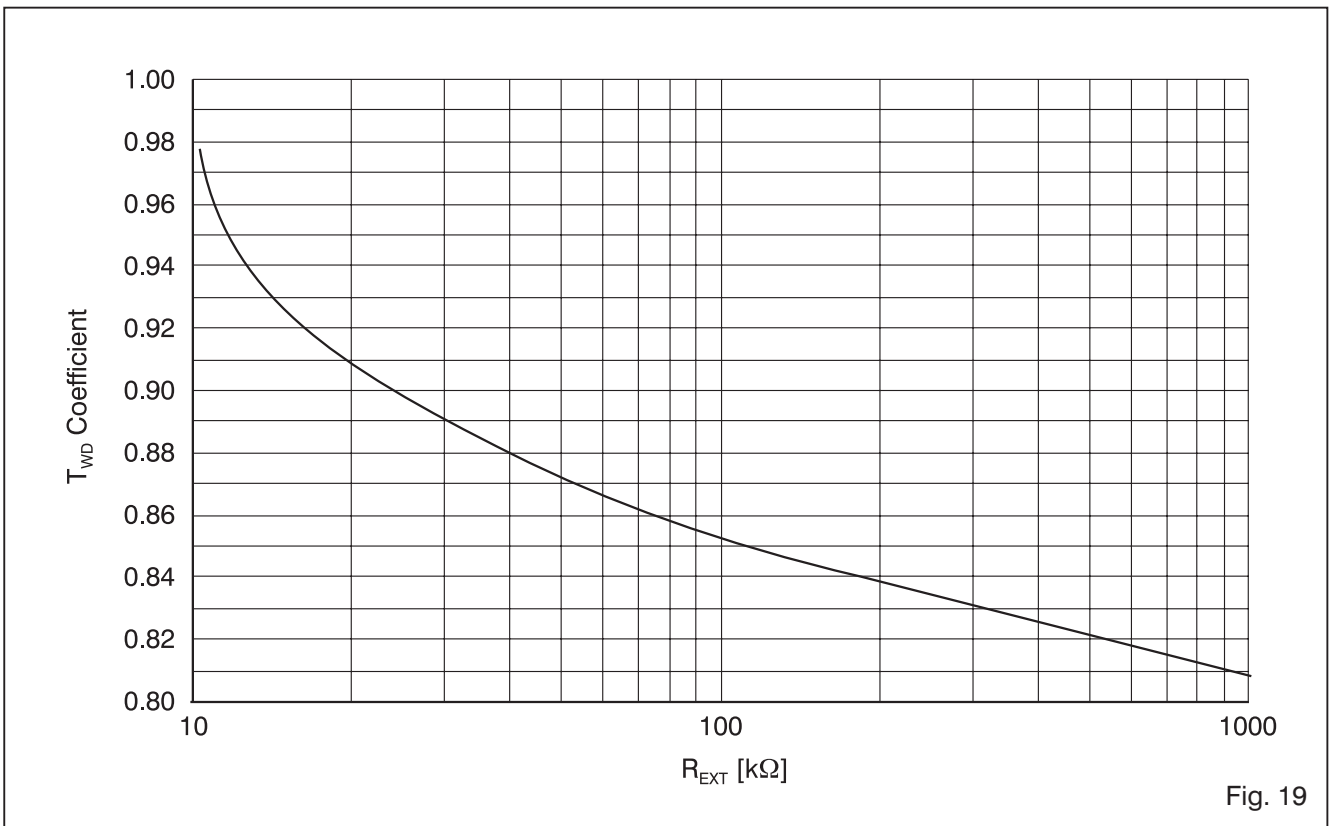
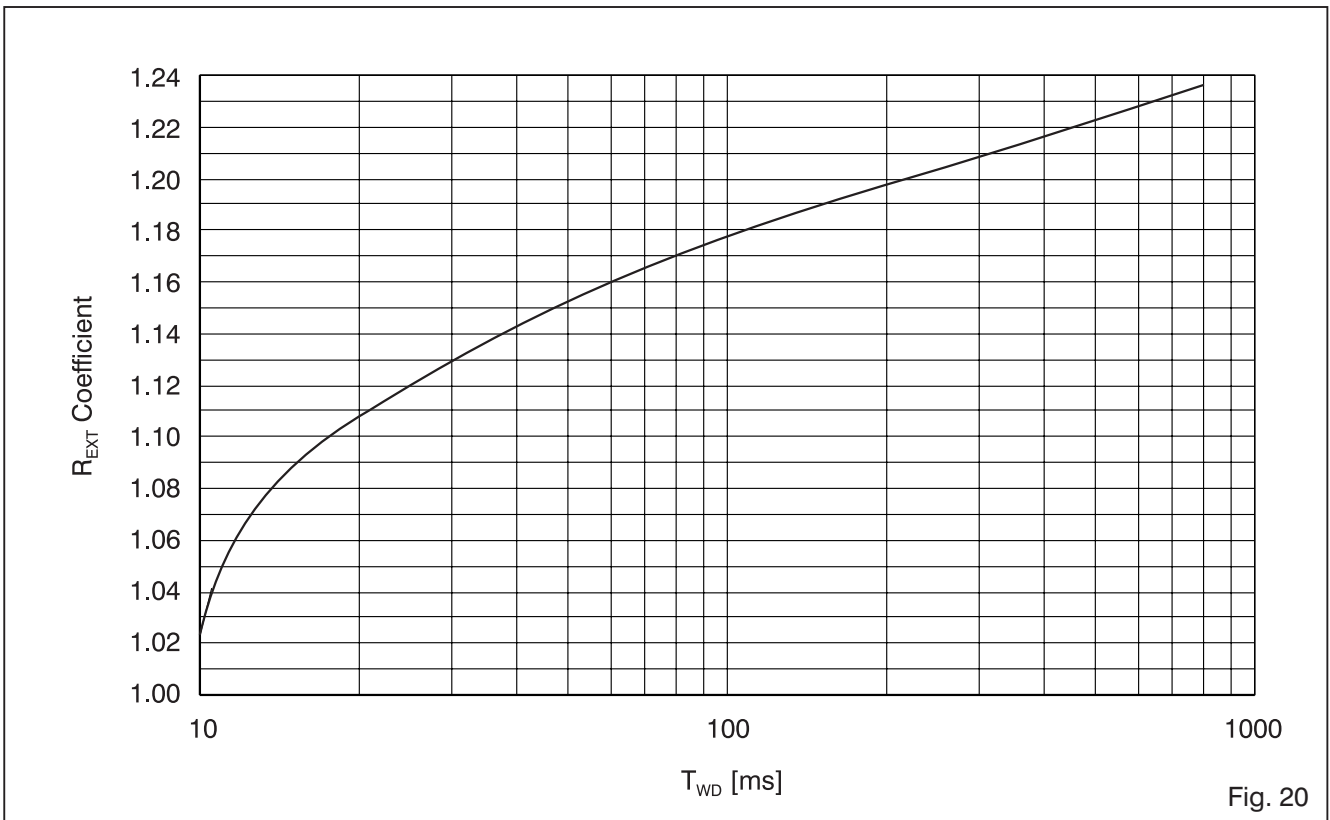

Fig. 19
Fig. 20
Related to curves (Fig. 10 to Fig. 20), especially Fig. 19 and Fig. 20, the relation between  $T_{WD}$  and  $R_{EXT}$  could easily be defined. Let us take an example describing the variations due to production and temperature:
2. Related to Fig. 20, the coefficient ( $T_{WD}$  to  $R_{EXT}$ ) is 1.125 where  $R_{EXT}$  is in  $k\Omega$  and  $T_{WD}$  in ms.